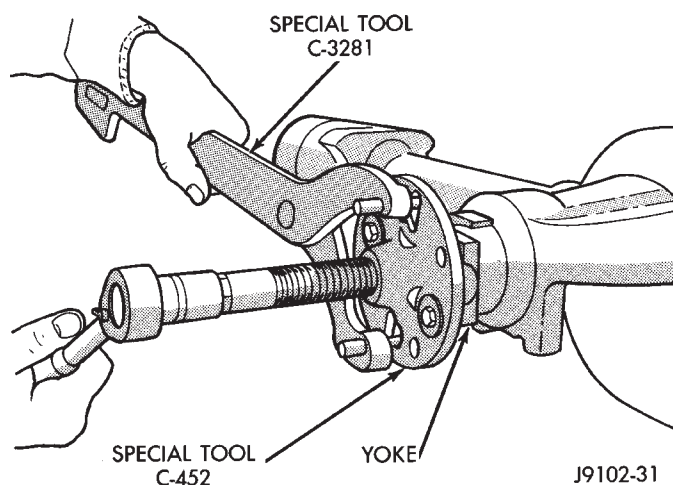

Fig. 21 Pinion Yoke Removal
(1) Remove differential assembly from axle housing.
(2) Remove the pinion yoke nut and washer. Use Remover C-452 and Wrench C-3281 to remove the pinion yoke (Fig. 21).